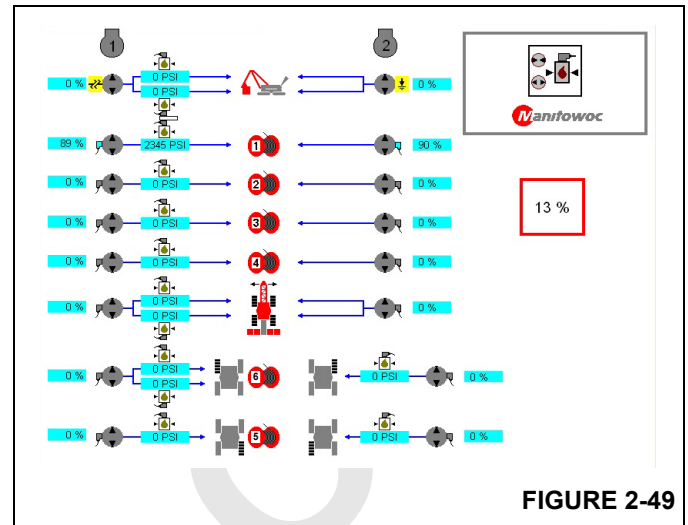

FIGURE 2-49
9. Press  to start the Control Calibration Test. (Figure 2-49).